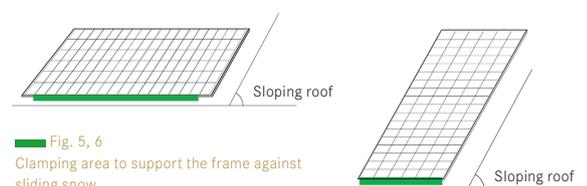

Fig. 5, 6
- + With increased snow loads, clamping is required on the lower side of the frame to absorb the forces of the sliding snow (Fig. 5 and 6).